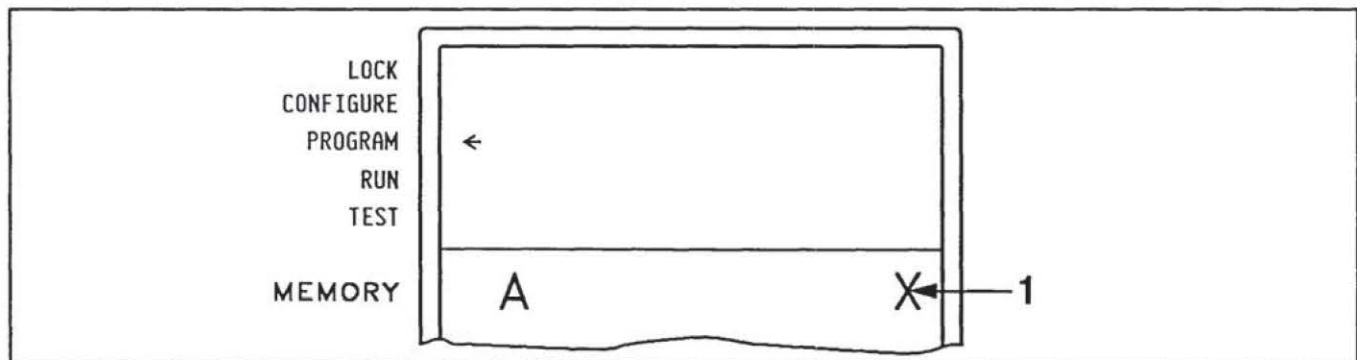

Figure 4.13 - Initial Program mode display
Press and hold SET. The initial Program mode display appears (Figure 4.13).
**NOTE:** Only one memory letter is initially displayed (Figure 4.13). This is the active memory. You can program the active memory or any of the inactive memories.
1. Press and hold SET.	1. Initial Program mode display shown (Figure 4.13, above).